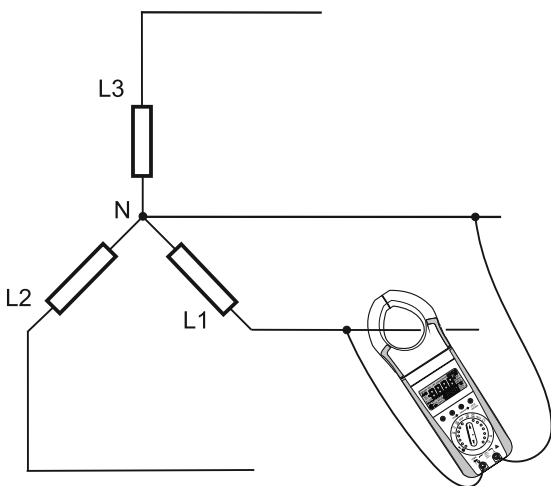

Fig 1.2.1 Connection diagram for 3ph4w balance load
- 2) Meter will show L1-n and I -1 on display. Connect meter to phase 1 as shown in fig1.2.1.1.